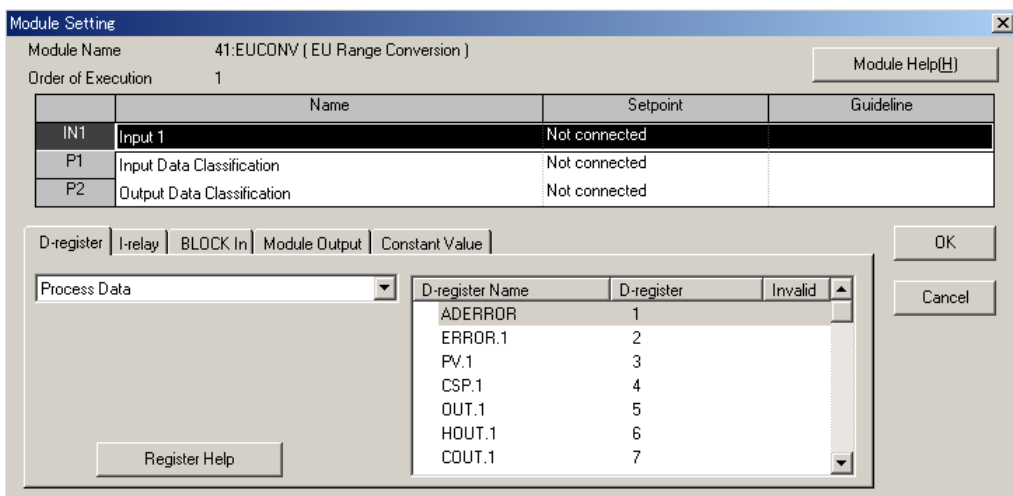

Figure 12.1.8 [Module Setting] Dialog Box
- (1) Click the registered first-run EUCONV module.
- (2) From the tool menus, choose <Edit [E]>, then <Connection>. The [Module Setting] dialog box (Figure 12.1.8) appears.